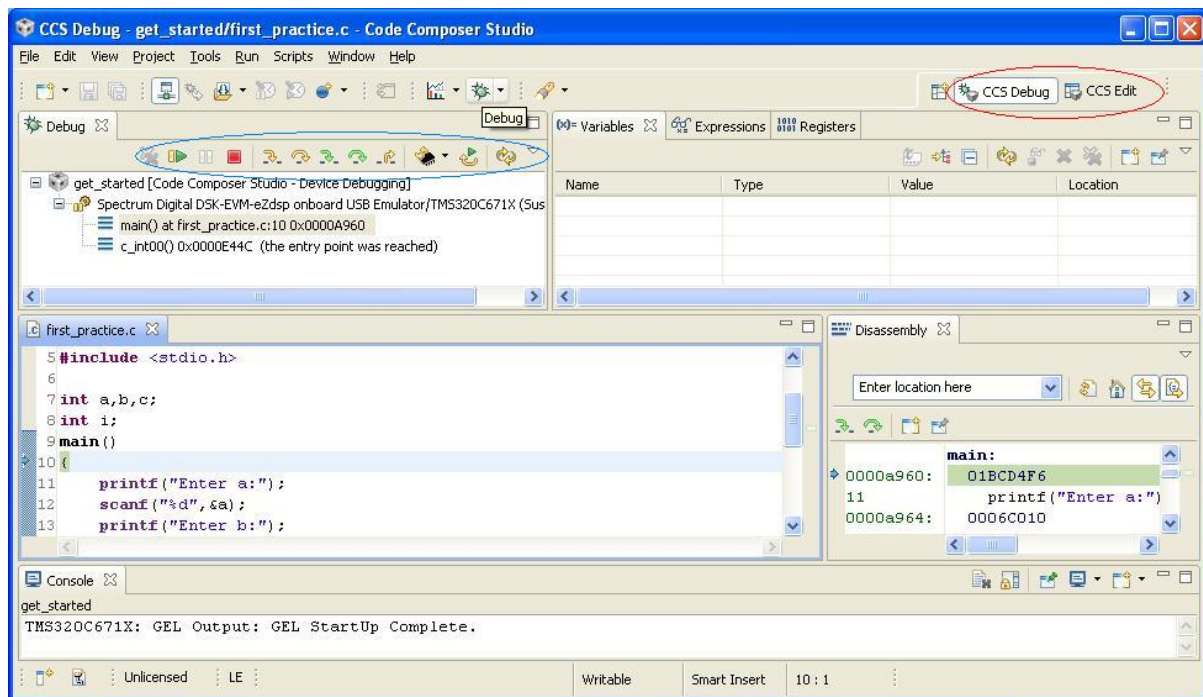

Figure 1.3.: View after Debug → Run
The „Problems“ window should not show any error or warning and should not be opened, respectively. After that, you are automatically switched to the Debug Perspective. You can return to the CCS Edit-Perspective via the buttons on the right top (Figure 1.3, encircled in red).
**Run** → **Resume** or <F8> or the corresponding button (Figure 1.3, green arrow on the left of the area circled in blue) starts the program on the DSP. You are asked for input in the „Console“ window.